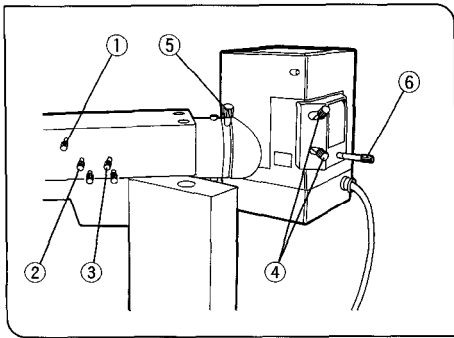

Fig. 17
6 Centering the Mercury Burner (Figs. 17, 18)
1. Pull out the light excluding shutter knob ① to block the light path.
4. Push in the field iris diaphragm knob ② and the aperture iris diaphragm knob ③ to fully open the iris diaphragms. (Fig. 17)
5. Push in the light excluding shutter knob ① to completely open the light path.
6. Screw in the burner focusing knob ⑥ fully.